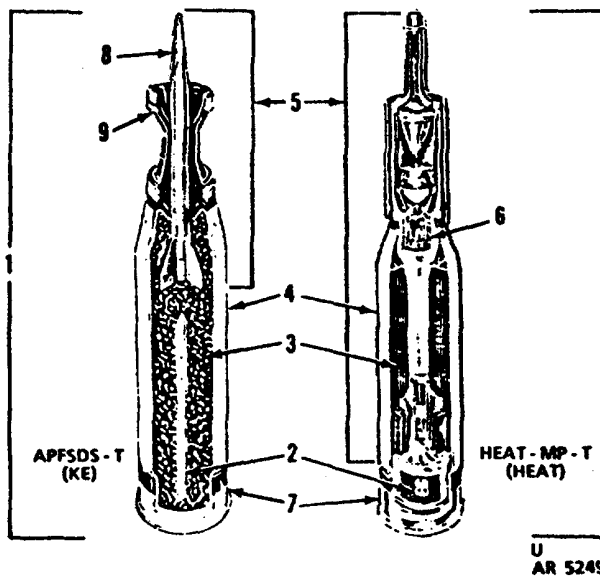

Figure 12. HEAT-MP-T and APFSDS-T complete rounds.
Ammunition for the 120mm gun M256 may be interchanged with authorized Federal Republic of Germany produced 120mm tank gun ammunition. It is fixed ammunition ready to fire. It uses a combustible side wall cartridge case with a metallic stub base. All but the stub base and primer are consumed when the round is fired. The HEAT-MP-T and APFSDS-T (fig. 12) complete rounds (1) consist of an electric primer (2) a propelling charge (3) inside the combustible cartridge case (4) and a projectile (5). The HEAT-MP-T round has an explosive shaped charge assembled with a point initiating base detonating fuze (6). The APFSDS-T round has a heavy metal penetrator (8) and discarding sabots (9). The combustible sidewall case is secured to the projectiles (5) and to the metallic case base (7).